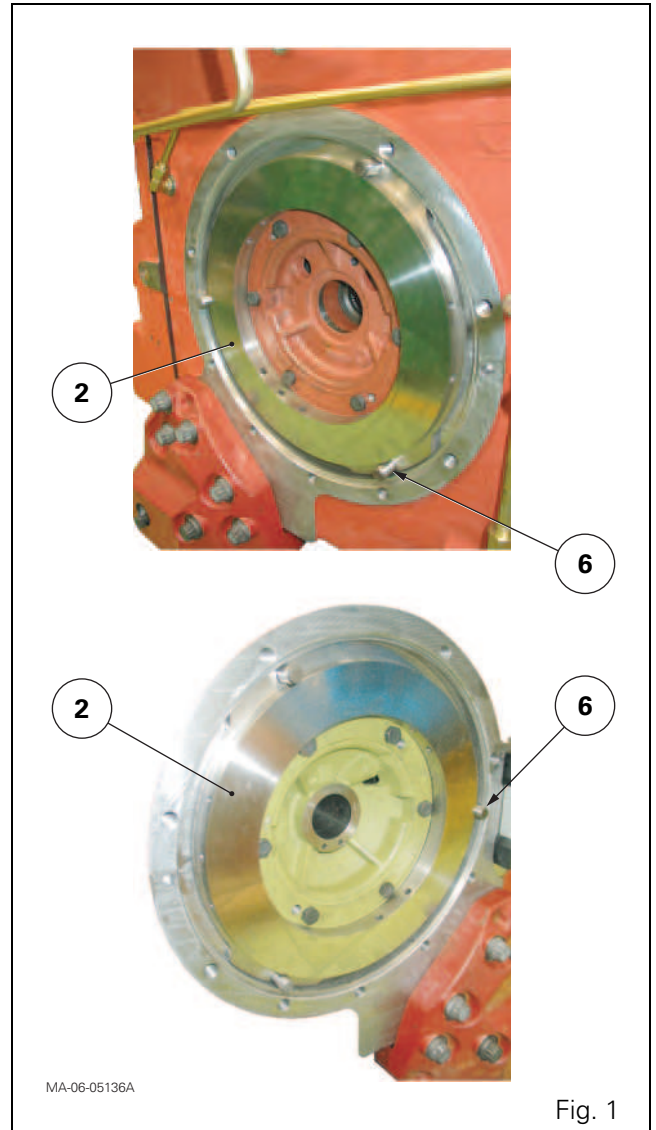

Fig. 1
The brake pistons (2) are housed in two cavities formed by the centre housing and the left and right-hand differential supports (Fig. 1).
They are (Fig. 1):